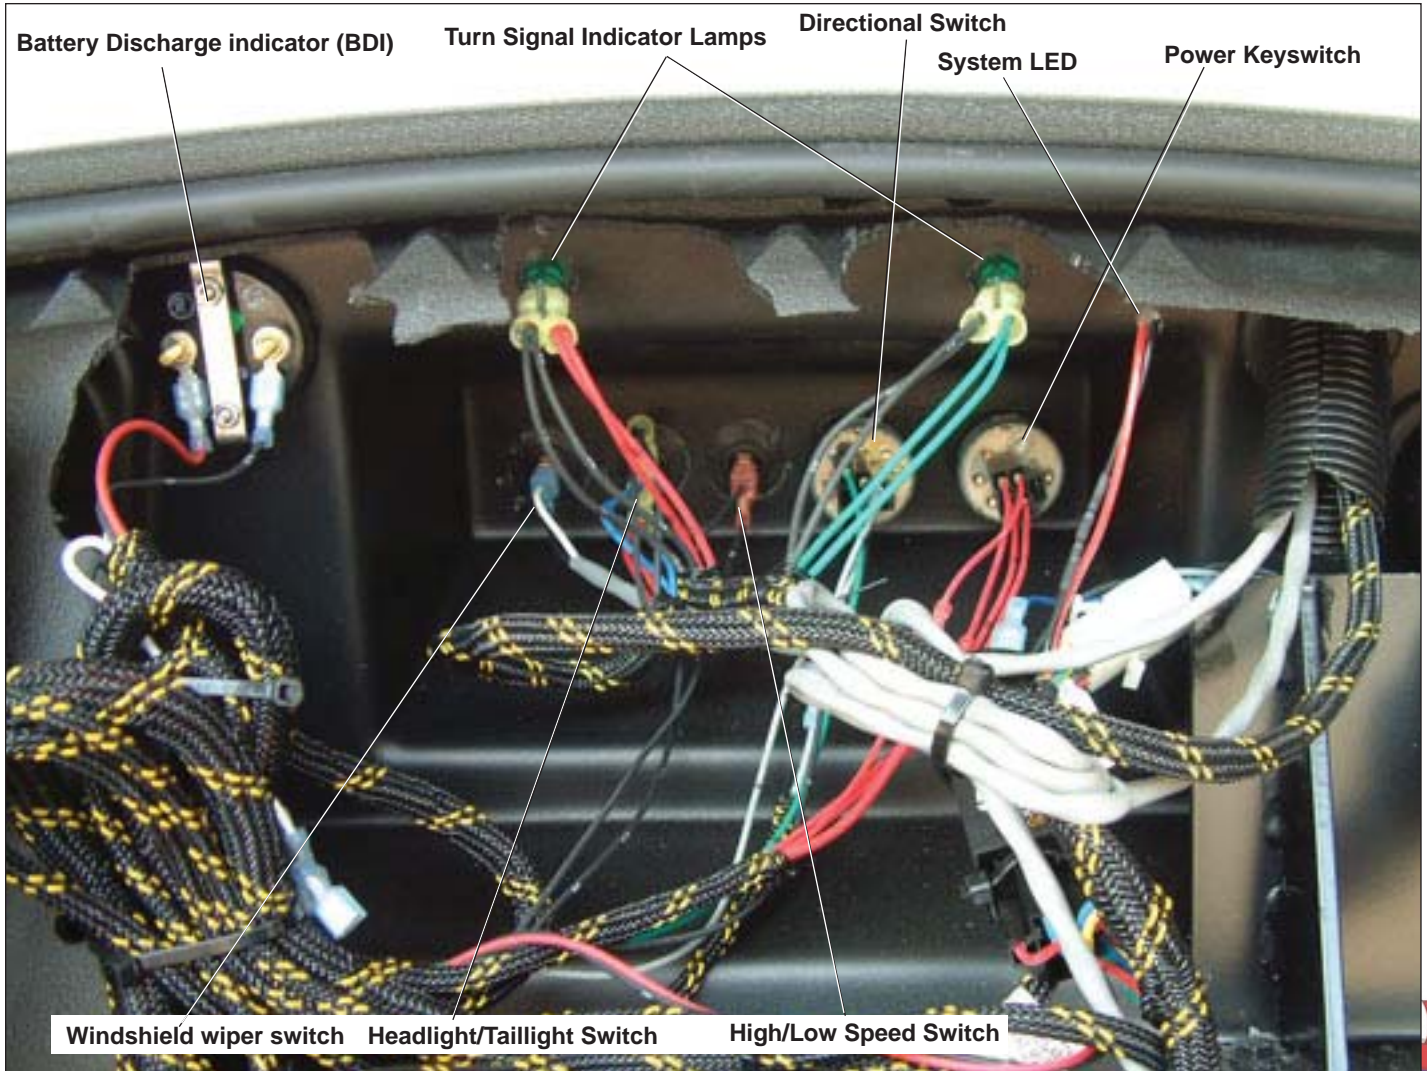

Figure 7-5. Controls Switches and BDI Mounting
1. Disconnect wires from BDI (Figure 7-5). Note position of wires.
1. Disconnect wires from back of lamp/LED (Figure 7-5).
1. Disconnect wires from switch (Figure 7-5). Note position of wires.
1. Disconnect wires from back of switch (Figure 7-5).